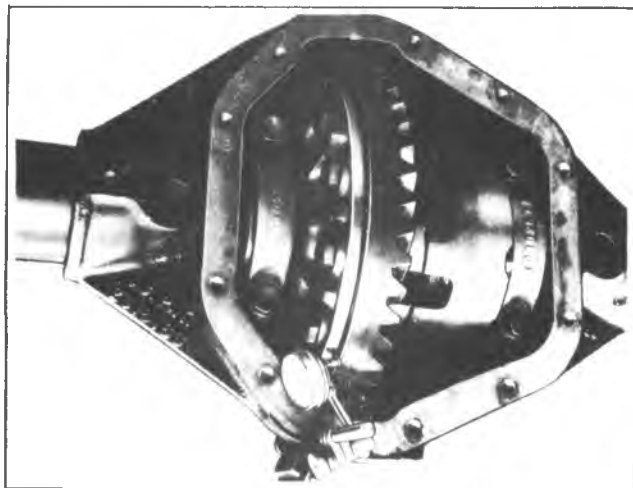

Fig. 19F--Checking Runout
7. Install dial indicator on carrier with indicator button contacting back of ring gear, as in figure 19F. Rotate differential case and check for runout. If runout is greater than .002", the assembly should be removed and the ring gear removed from the case. Again install differential case and check runout at differential case flange.
2. Install dial indicator on carrier with indicator button contacting back of ring gear, as in figure 19F.